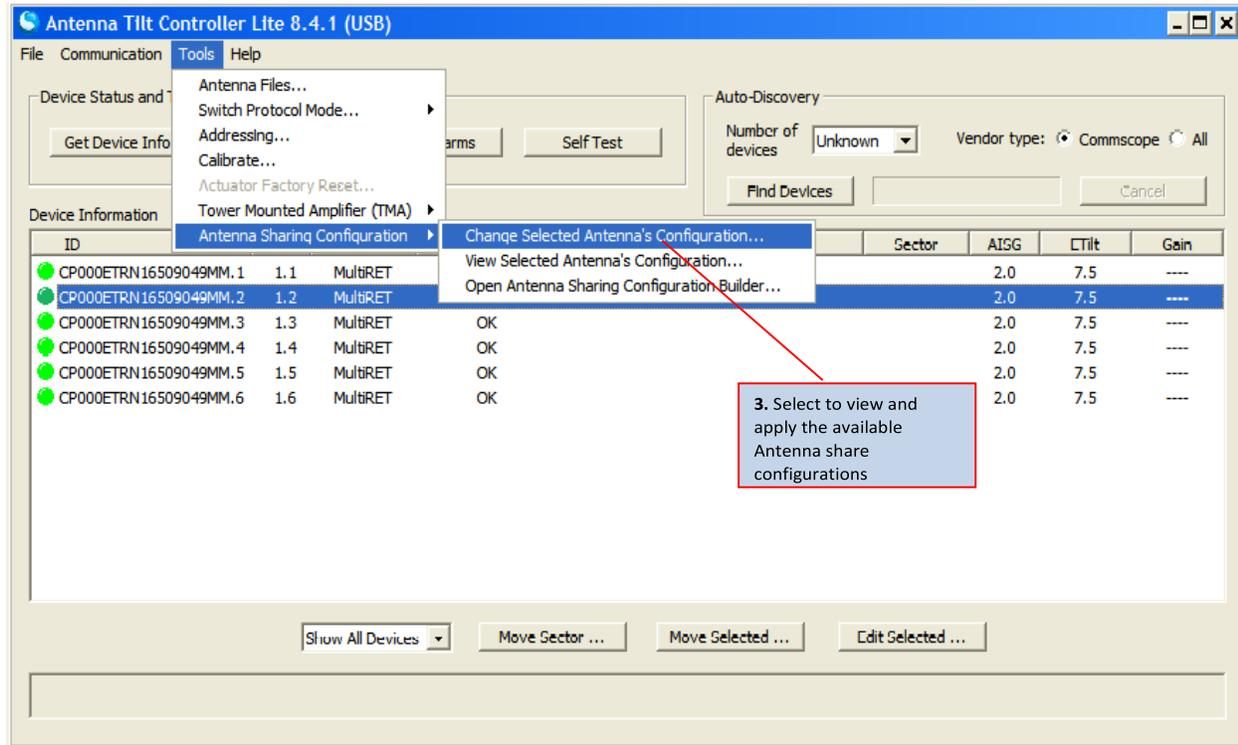

Figure 15-2. Menu Selection for Changing Antenna Sharing
3. Select the menu “Tools” → “Antenna Sharing Configuration” → “Change Selected Antenna’s Configuration...” as shown in the Figure 15-2.